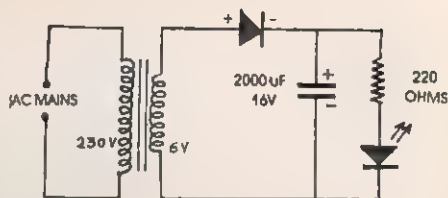

Fig. 3.1
1. Make the connections as shown in Fig. 3.1 Observe the glow of the LED.
When the diode is connected as shown in Fig. 3.1 the LED glows brightly. When the orientation of diode is reversed the LED does not glow. After the capacitor is removed the LED glows with less intensity than before.